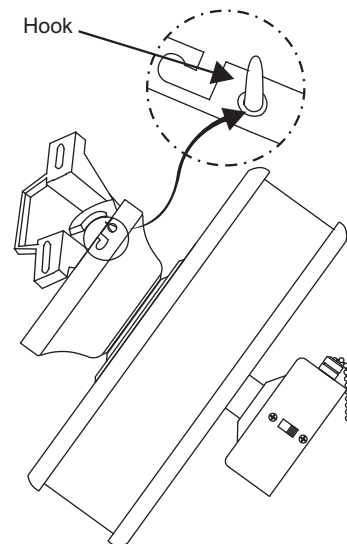

Figure 10
7. Hang the fan on the hook of the hanger bracket. Be certain that the canopy is fully locked into hook as shown in Fig. 10. This will allow you to make the electrical connections.